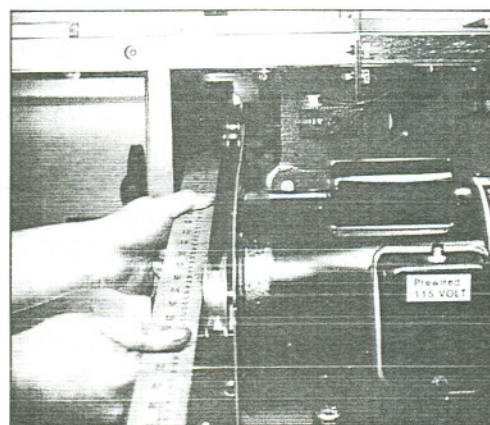

Fig. 23
5. Using an accurate straight edge, line up the motor pulley with the arbor pulley. (Fig. 23).